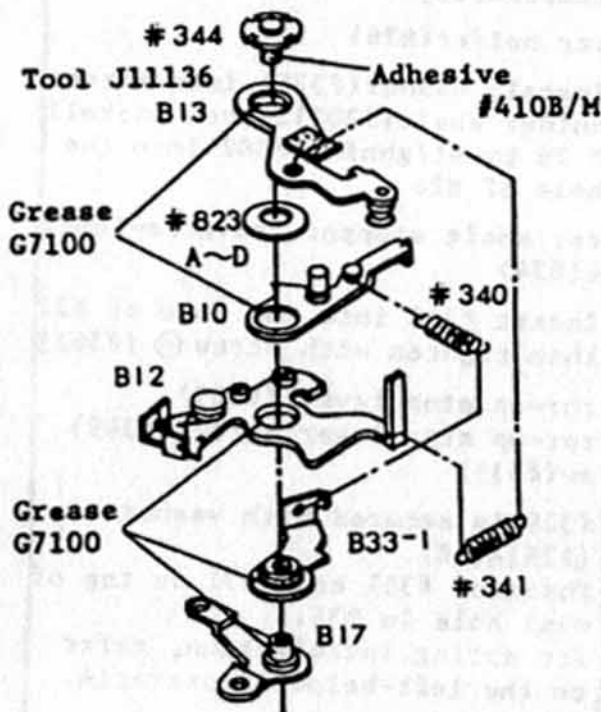

fig.19 Mirror-up lever Assembly
- Mirror-up lever assembly (fig.19)